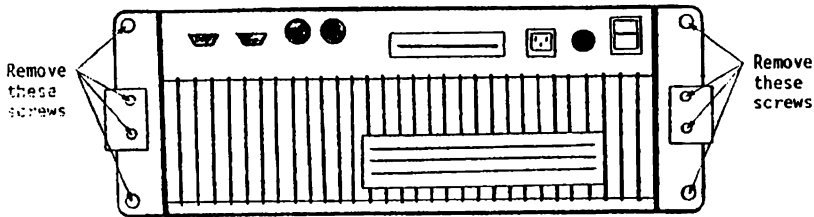

Figure 1: REAR PANEL SCREW REMOVAL
6. Remove the eight screws shown in Figure 1 from the rear of the SX-64.
30. Drill a hole in the SX-64 case assembly to facilitate the mounting of the JiffyDOS Selector Switch. The diameter of the hole should be just slightly larger than the threaded collar on the switch. A location we would recommend is the upper portion of the rear panel (visible in Figure 1) near the game ports. Whether you choose this location or an alternate one, make sure that the switch will not interfere with any of the SX-64 internal electronics or with any cartridges, cables, interfaces, or other devices which will plug into the SX-64.
7. Replace the back panel and side rail retaining screws removed during disassembly (see Figure 1).